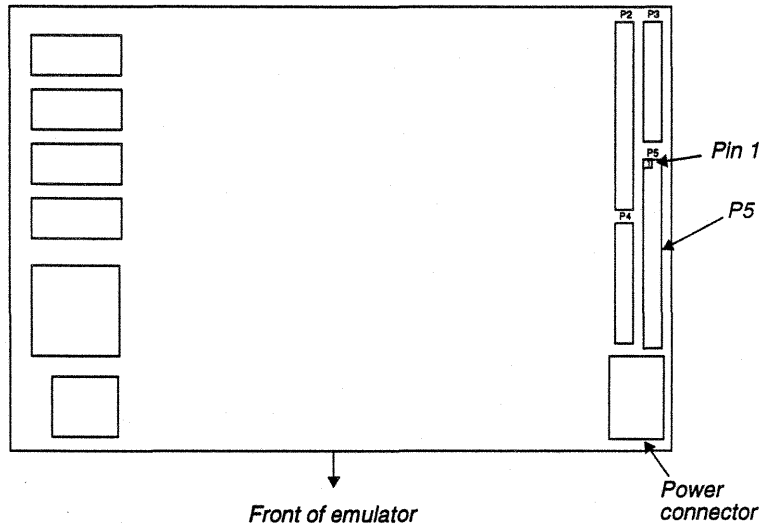

Figure 6 GMX Micro-20 board.
10. Locate the P5 connector on the GMX Micro-20 board. This connector is found on the right hand edge of the board as viewed from the front of the emulator (see Figure 6.)
12. Insert the header of the 50-wire ribbon cable into the P5 connector so that the striped edge of the ribbon cable is on the pin 1 side of the P5 connector. Pin-1 is the rear-most pin on the left side of the connector, as viewed from the front of the emulator (see Figure 6.). The cable header should be in contact with the power connector housing. It should NOT be in contact with the P3 connector.